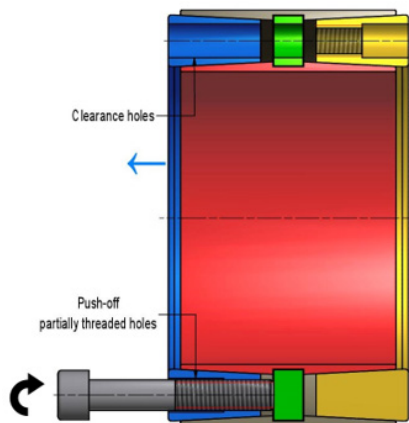

Fig. 5
3. Release the front thrust ring by tightening the screws in all push-off threads against central ring in a crosswise pattern, not exceeding  $\frac{1}{4}$  turns for several passes (see fig. 5). Remove the front thrust ring.